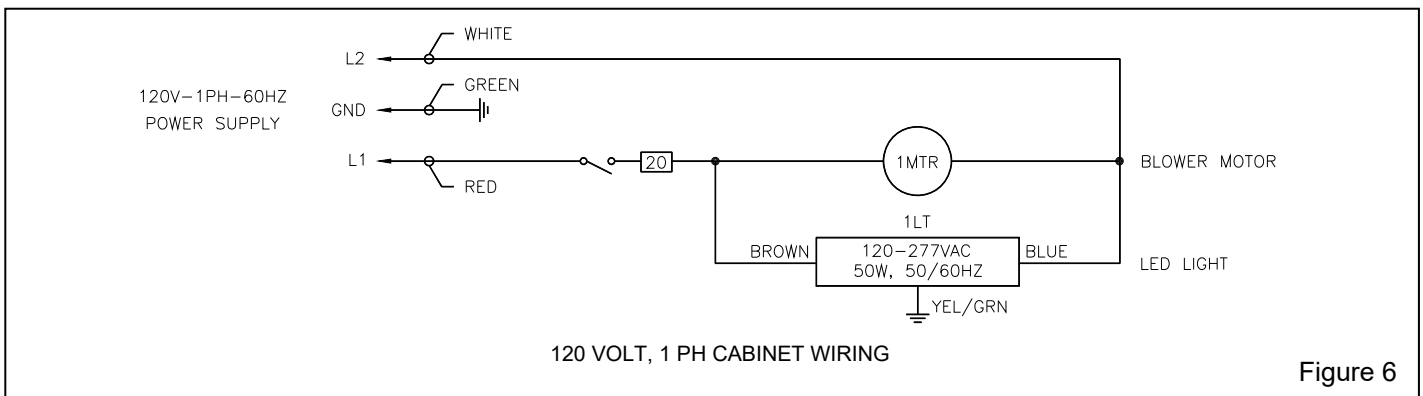

Figure 6
**2.4.1.1** Standard Pulsar cabinets are 120-volt single phase. Power is supplied by a U-ground plug; plug it into a 120-volt outlet. No additional wiring is needed; the wiring schematic shown in Figure 6 is for reference.